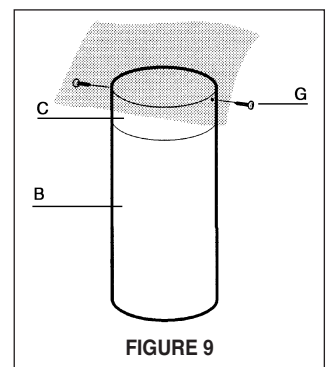

FIGURE 9
1. The UPPER CHIMNEY COVER (C in FIGURE 9) attaches using two screws provided (G in FIGURE 9). Slide up and attach the UPPER CHIMNEY COVER.
3. The LOWER CHIMNEY COVER (B in FIGURE 9) rests on the top of the CANOPY SECTION (A in FIGURE 1) once it is installed. Install the LOWER CHIMNEY COVER by sliding it up over the support.